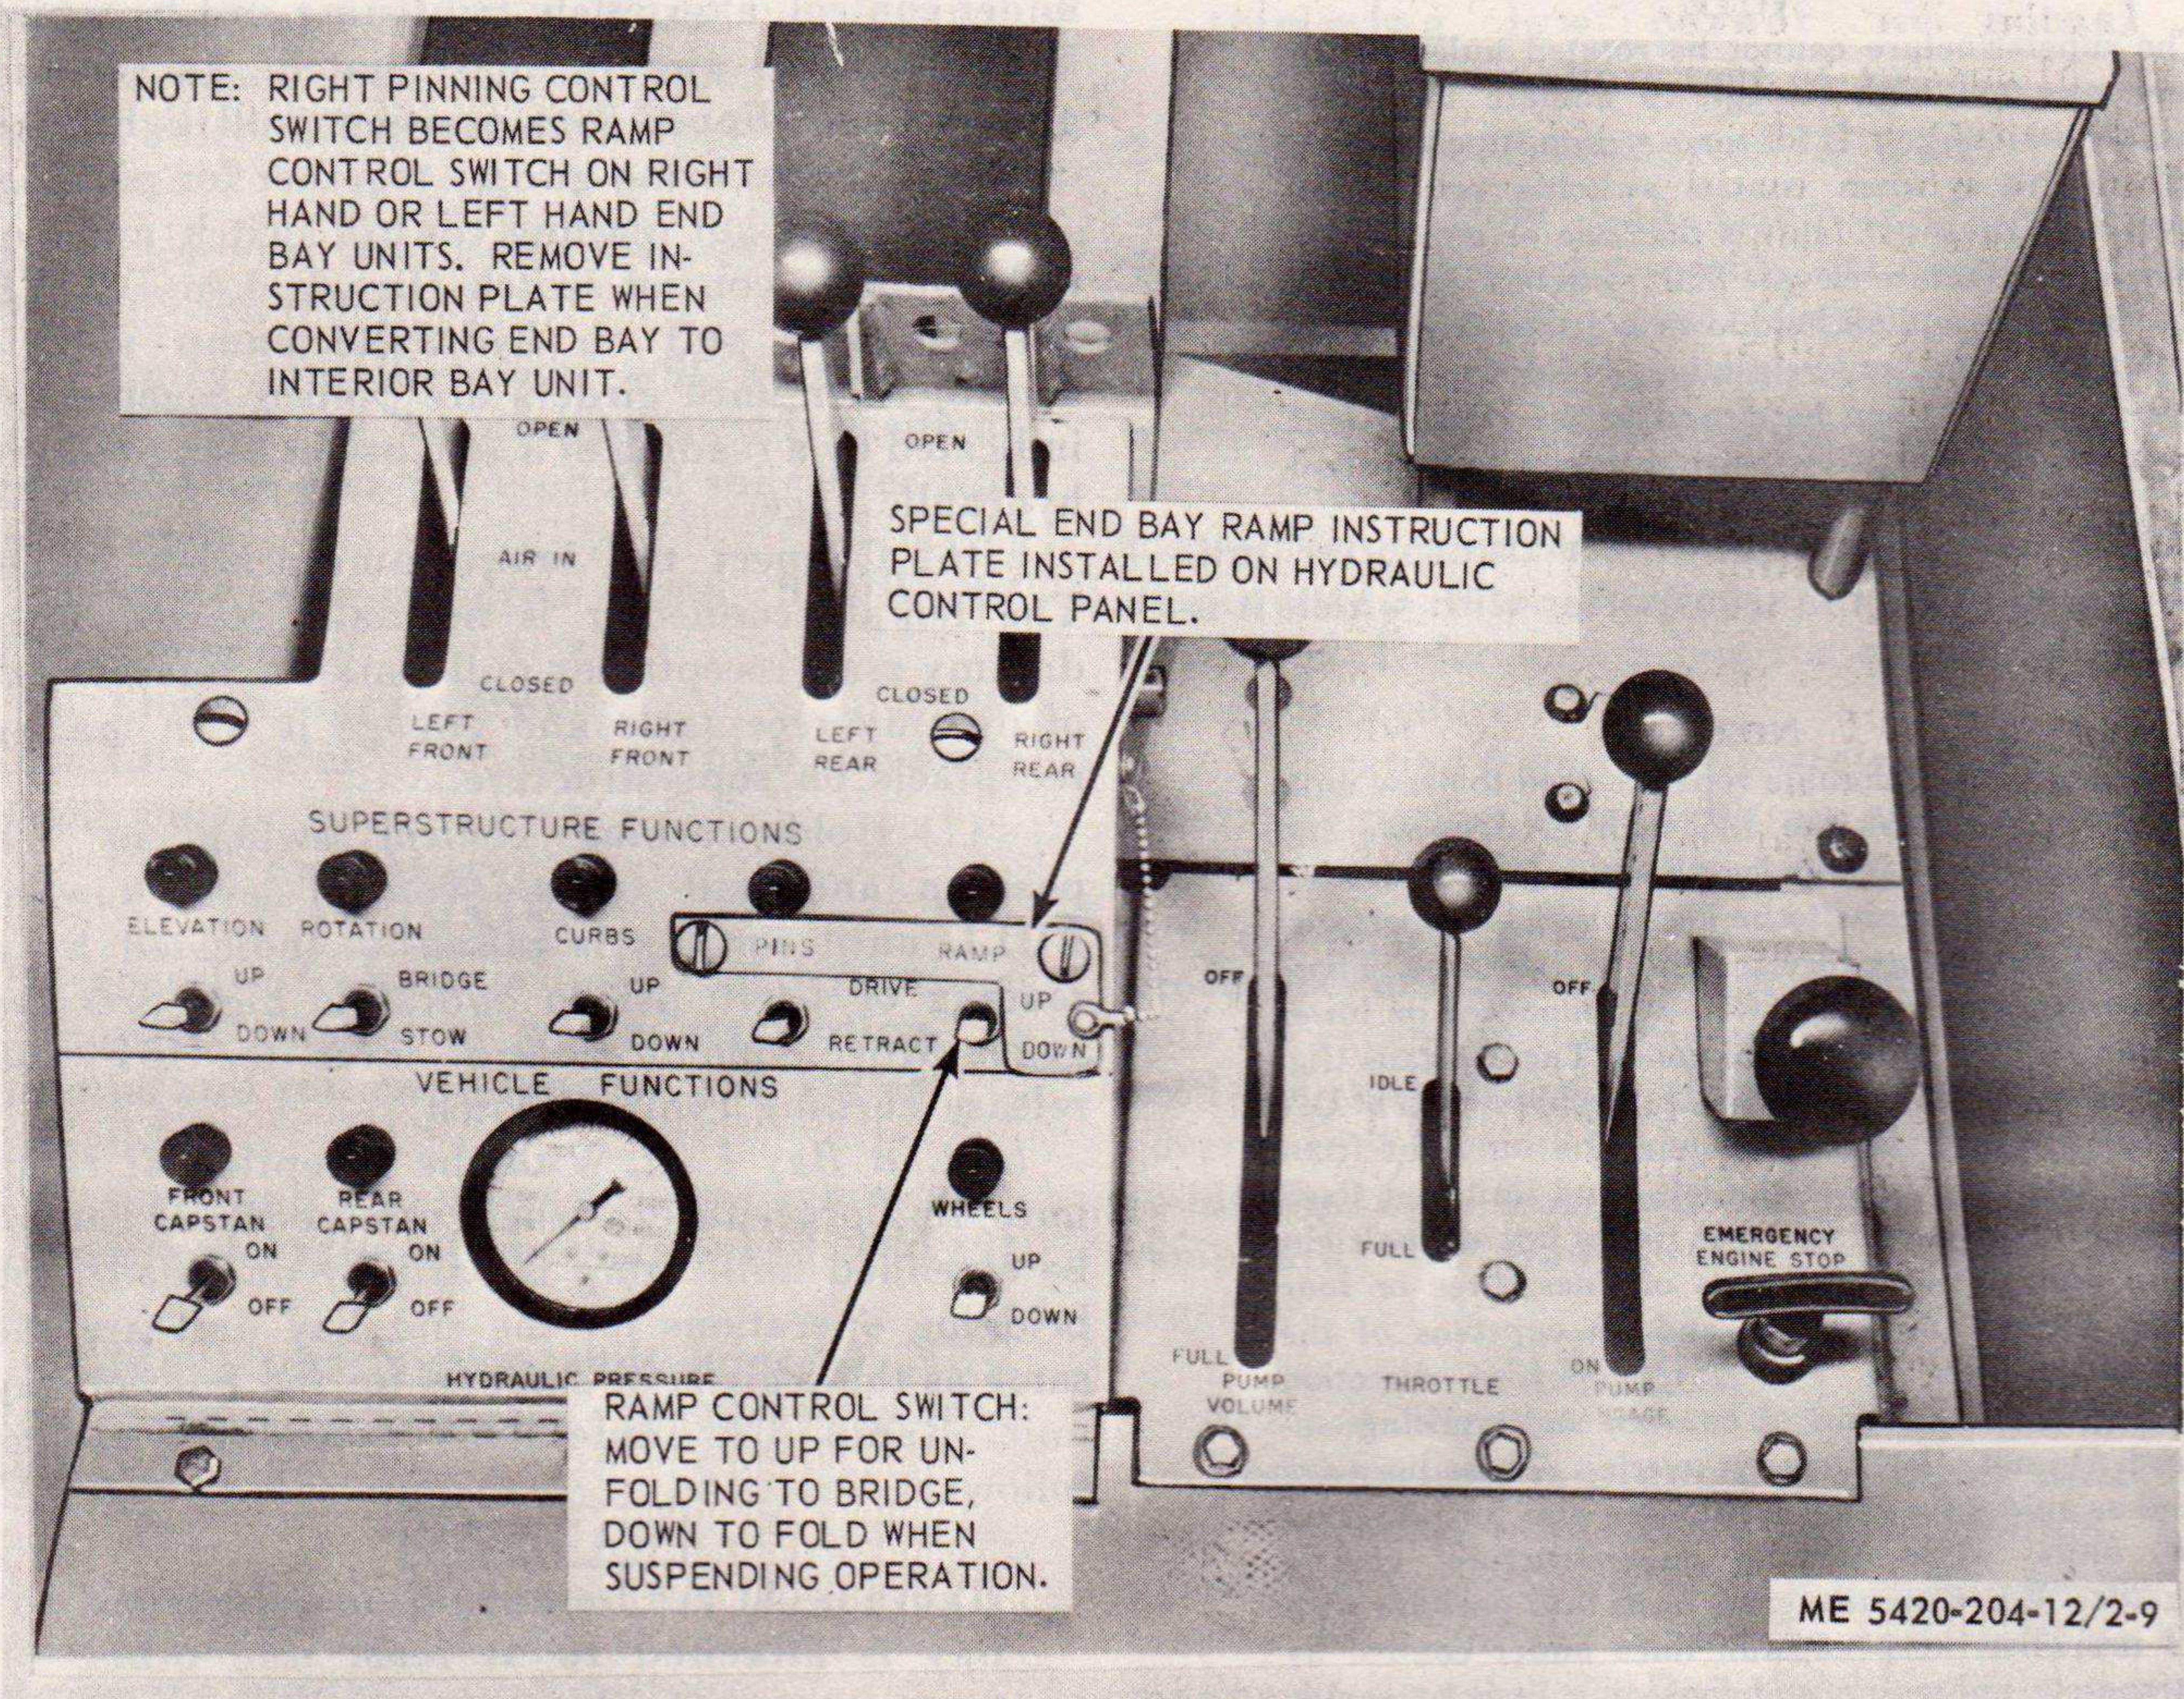

Figure 2-9. End bay ramp control instruction plate installed.
(1) Position ramp control switch (fig. 2-9) in UP (unfold) position and pull the hydraulic pump volume control lever. Ramp will unfold to its extended position in approximately one minute.
(2) Position curbing control switch in UP position.
(3) Inspect inside of hull for oil, water and / or air leaks.